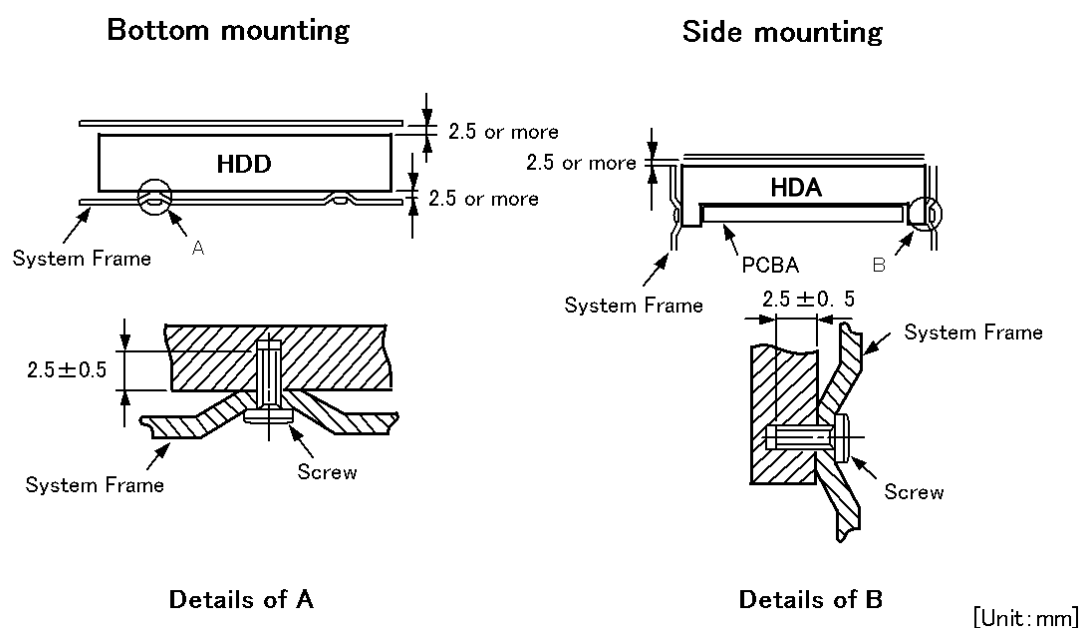

Figure 4.3 Mounting frame structure example
- The frame shall not touch the PCBA of the HDDs. For example as shown in Figure 4.3, mount the HDDs with a gap of 2.5 mm or more from the frame.
- As shown in Figure 4.3, the inward projection of the screw from the HDD frame wall at the corner must be $2.5 \text{ mm} \pm 0.5 \text{ mm}$.